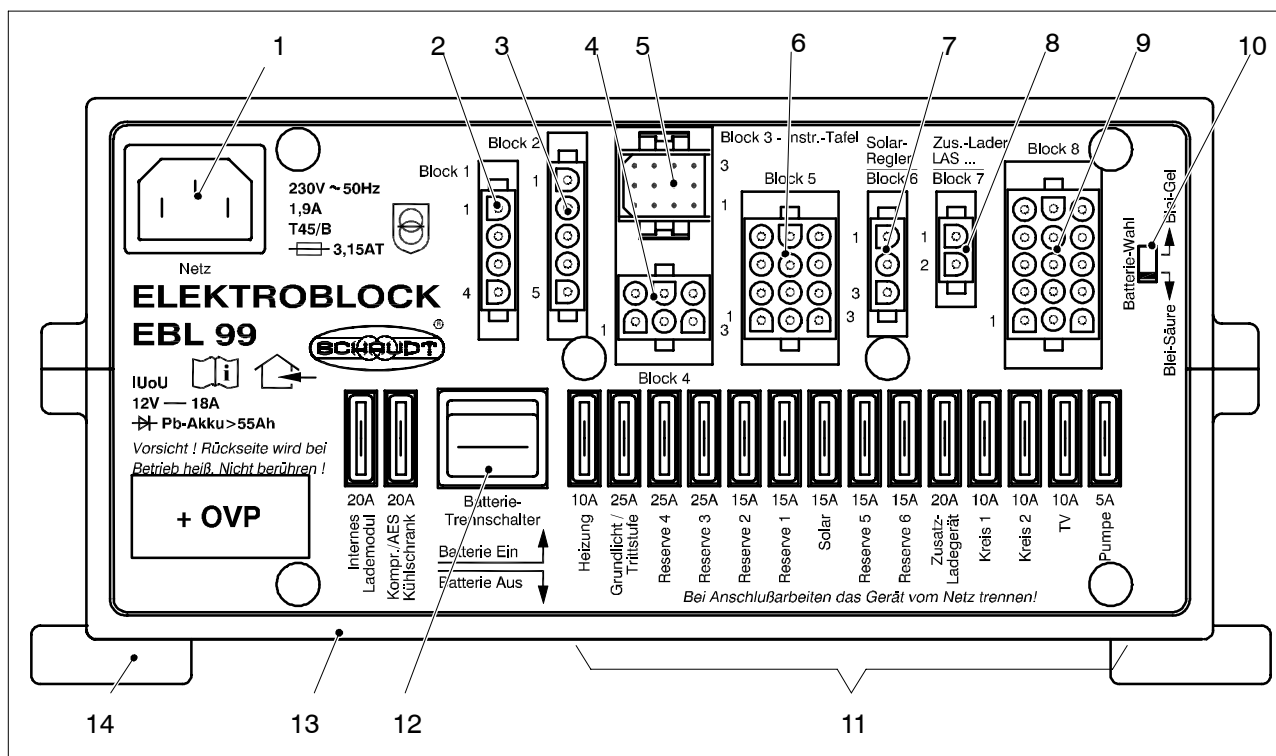

Fig. 3 Design electrobloc EBL 99 (front)
- ▶ Set the battery disconnecter (see Fig. 3, Pos. 12) to the position "off". The following connections are separated from the living area battery: